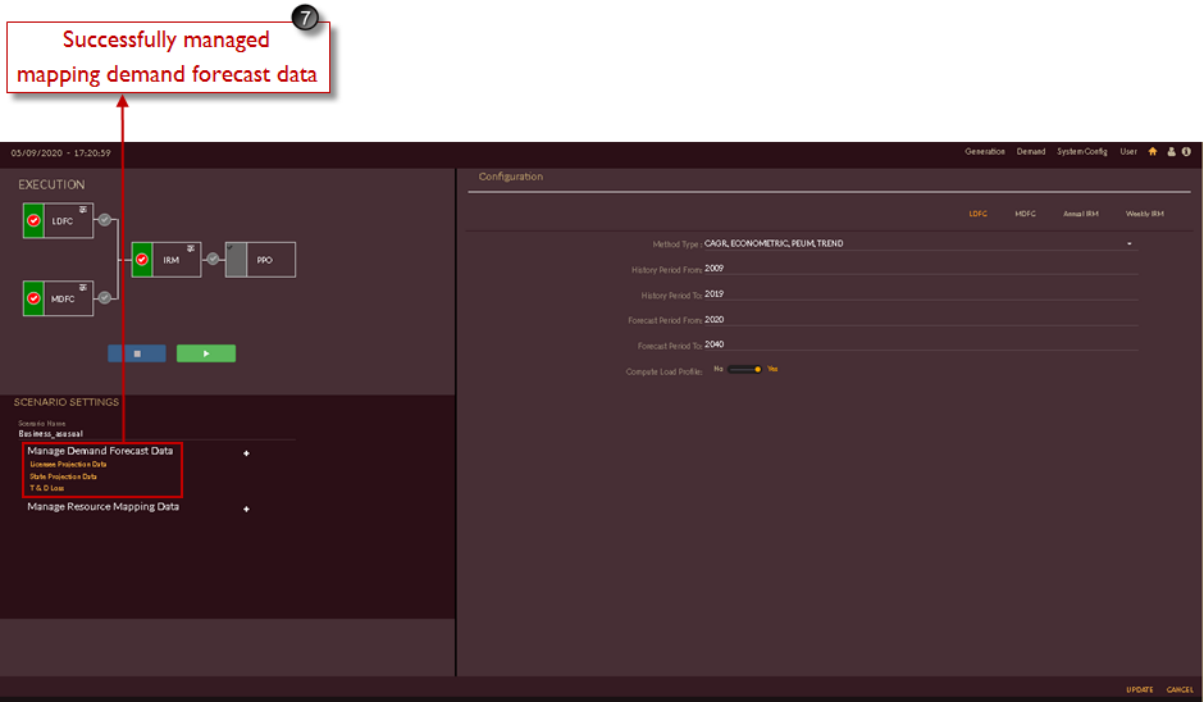

Figure 83. Finalized BAU Scenario
7. After saving all Licensee, State and T & D data into the Business As Usual (BAU) scenario user will see the page as shown in Figure 83.